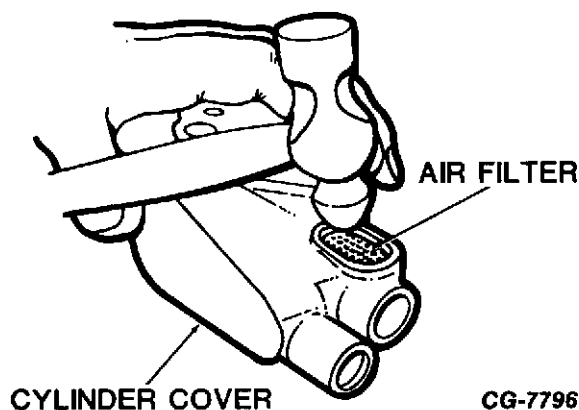

Figure 44. UNDERSIDE OF INTROL GOVERNOR
3. Install inner cover. Replace felt in governor body. Install outer cover. It may be necessary to bend cover to install; if so, flatten by tapping with hammer (Figure 44.)